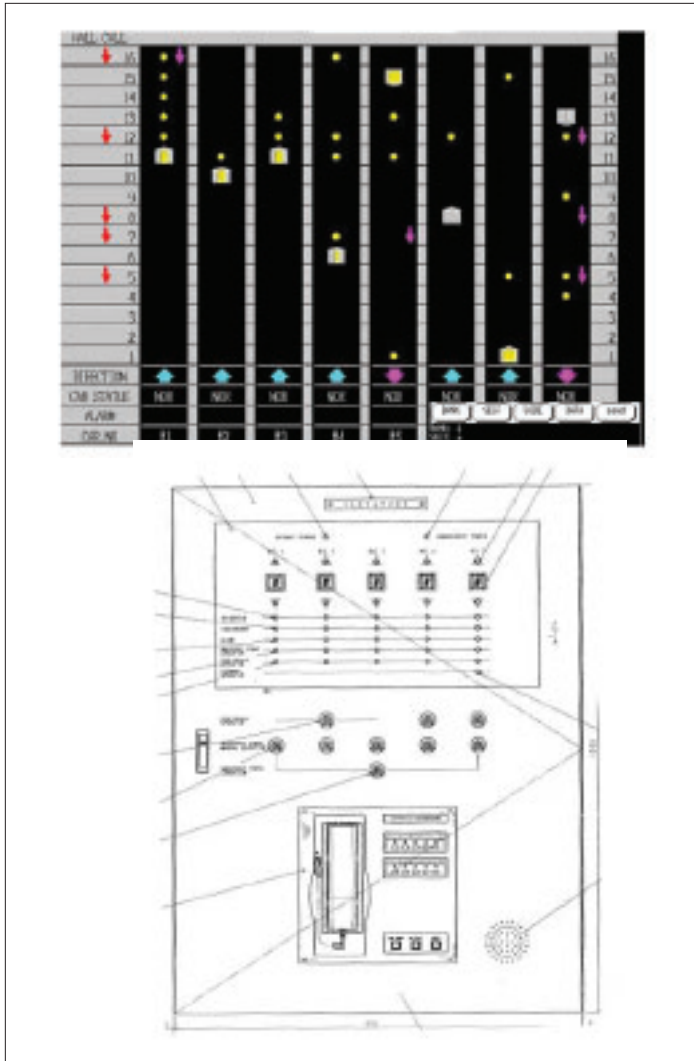

Figure 3: Elevator monitoring system/supervisory panel
- b. Elevator operational status – can be obtained from monitoring system/supervisory panel (Figure 3)